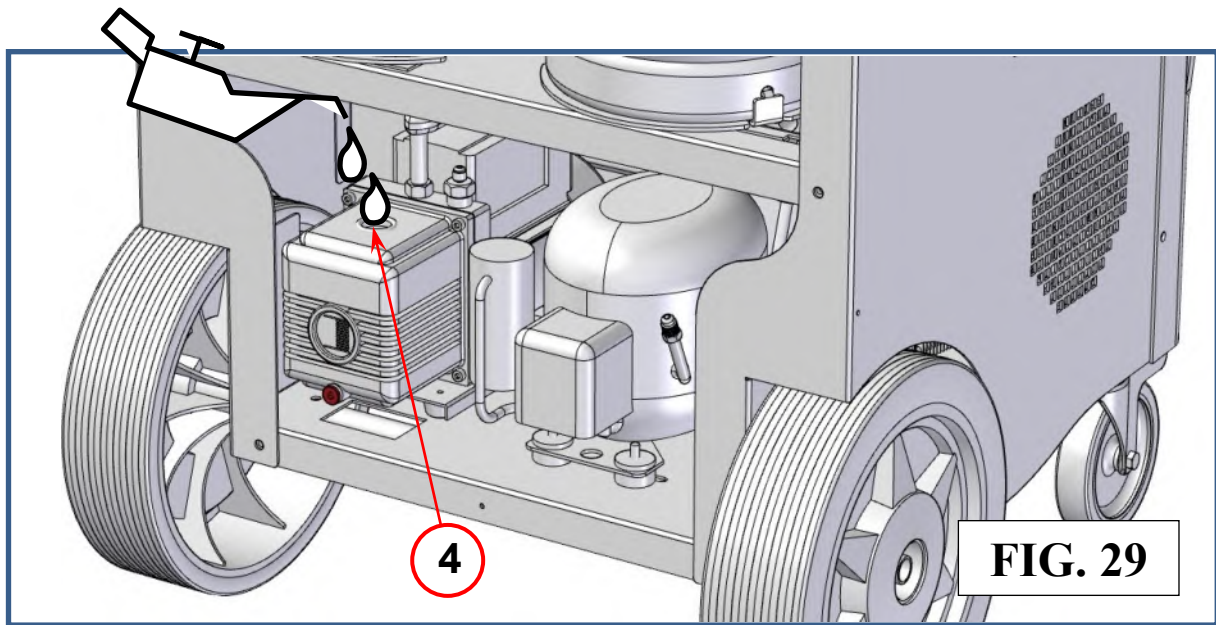

FIG. 29
The oil must be added through the hole in which the filling cap was lodged (ref 4, Fig.29)